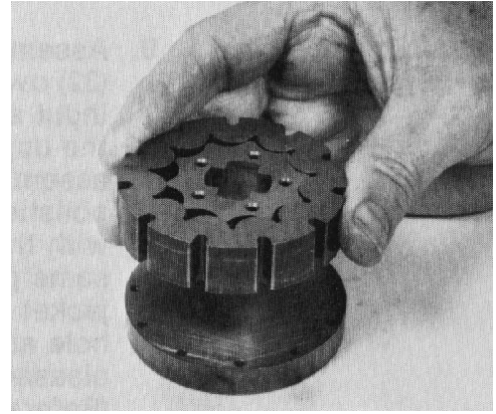

Figure 73
11. Put the drive plate on a clean lint-free surface with the eleven tapped holes facing up. Put the rotor set on top of the drive plate with the five pin holes facing up. Rotate the stator until the eleven hex socket head screw relief slots are aligned with the tapped holes in the drive plate (Fig. 73).